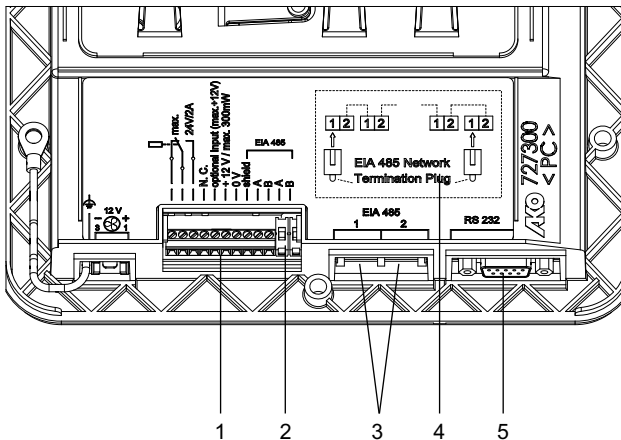

Fig. 9 Layout of network terminals
- Establish connection between inverters or inverters and monitoring devices on serial interface EIA485 using a cable with RJ45 plugs or cable on terminal connector (connection A and B) (see Fig. 9).